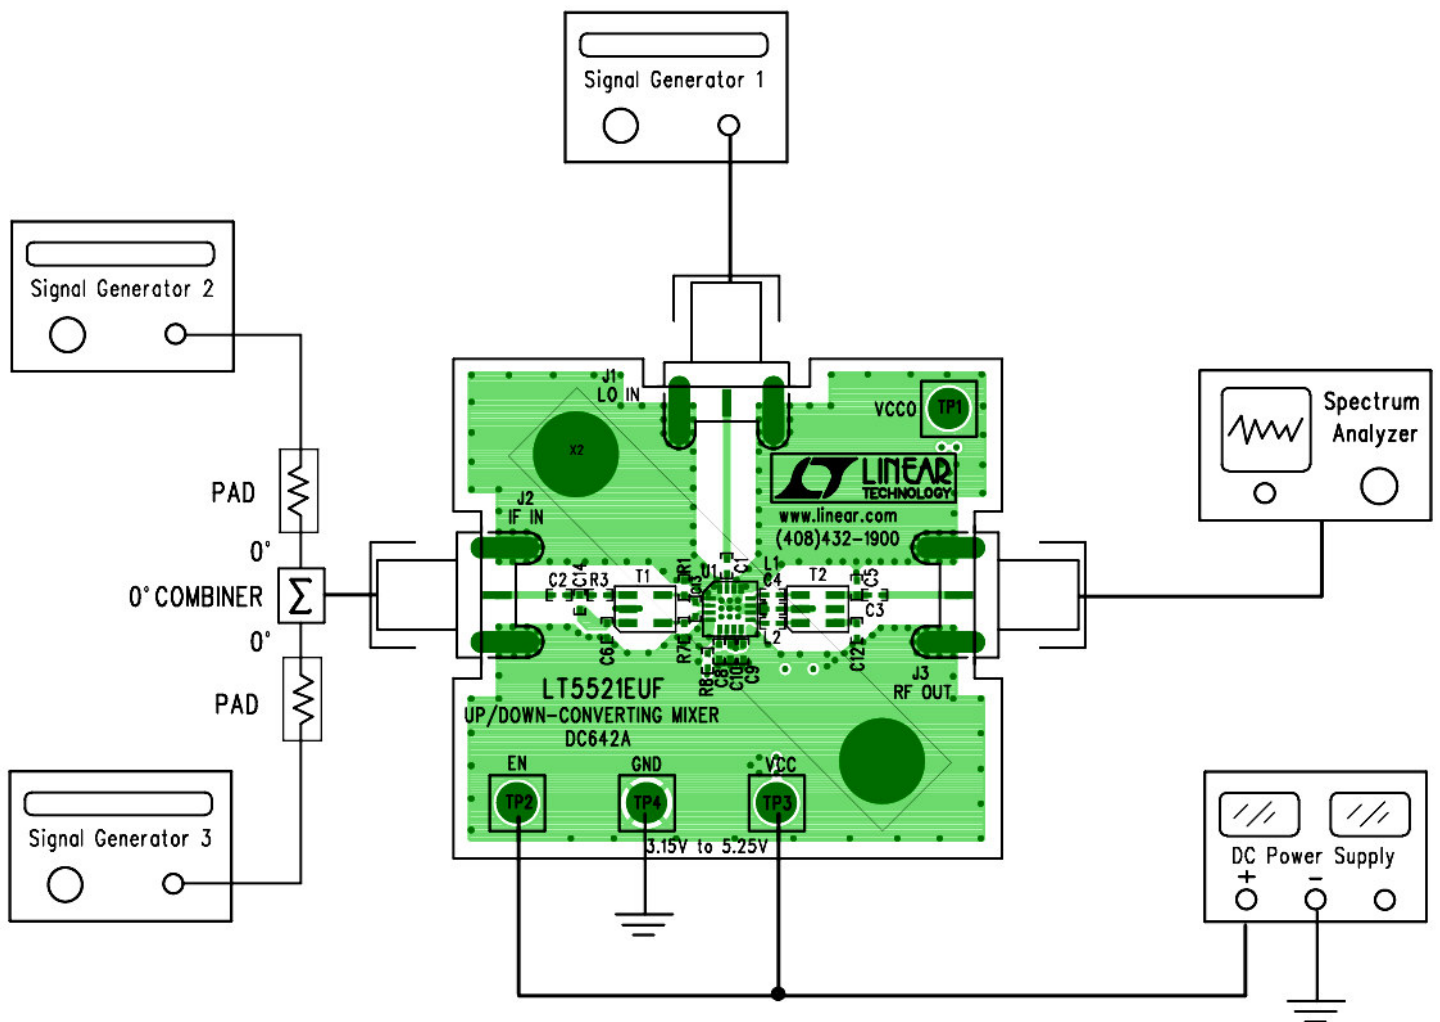

Figure 1. Proper Measurement Equipment Setup
Demonstration circuit 642 is easy to set up to evaluate the performance of the LT®5521. Refer to Figure 1 for proper measurement equipment setup and follow the procedure below:
1. Connect all test equipment as shown in Figure 1.